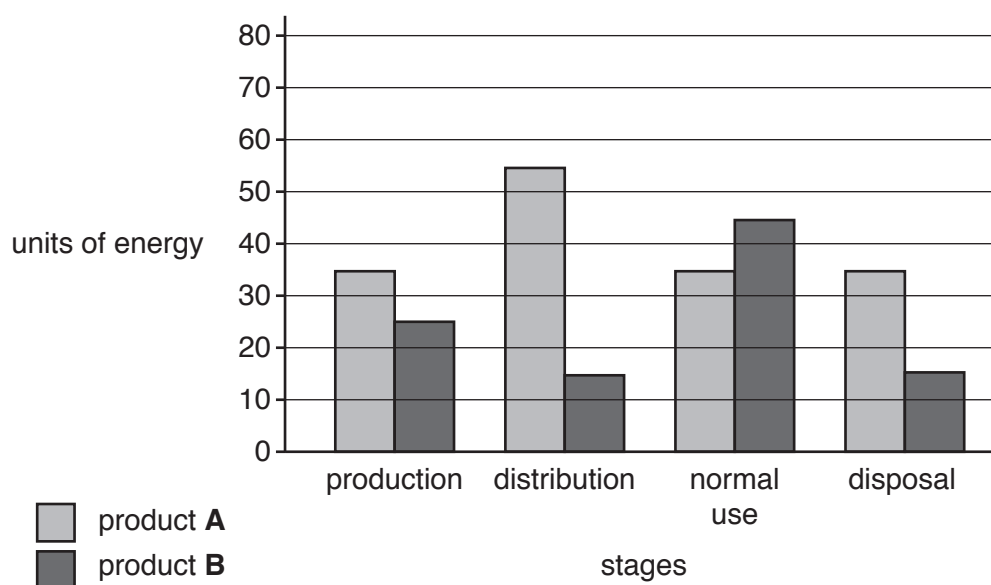

Fig. 1
- 5 Fig. 1 below shows a chart of the energy used at different stages in the life cycle of two engineered products.